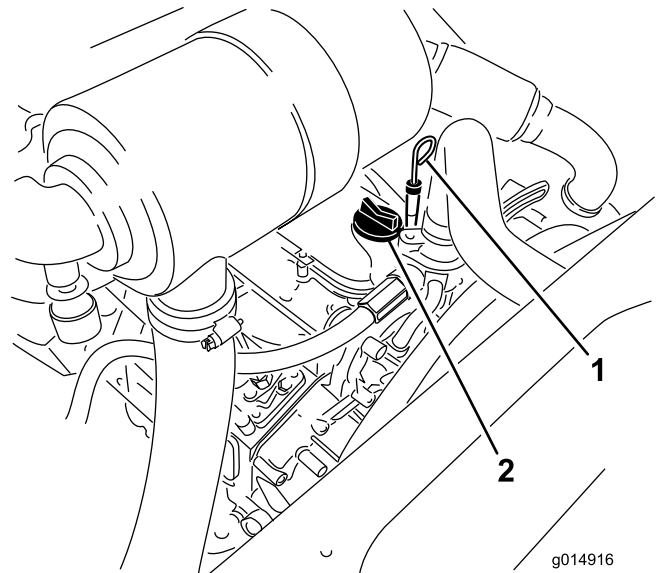

Figure 33
3. Remove the dipstick, wipe it clean, and install it (Figure 33).
- If the oil level is below the Full mark, remove the fill cap (Figure 33) and add oil until level reaches the Full mark on dipstick.